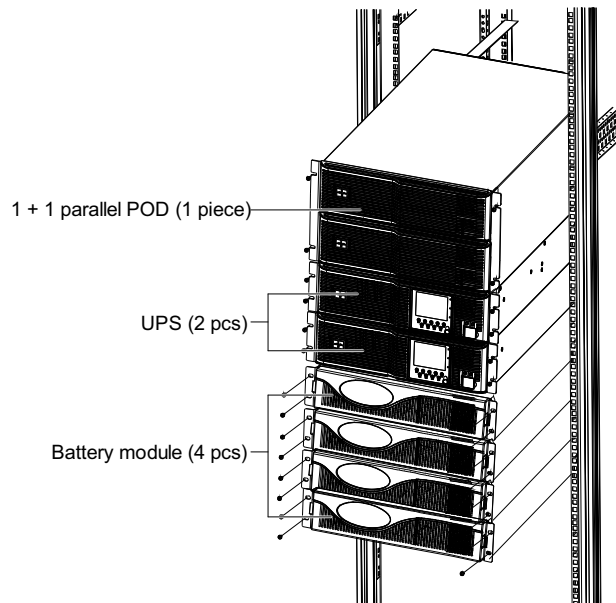

Figure 2-18 1 + 1 parallel system with battery modules
2. As shown in Figure 2-18, the battery module should be installed at the bottom, the UPS should be installed in the middle, and the 1 + 1 parallel POD should be installed on the top, so as to facilitate the cable connection and operation.